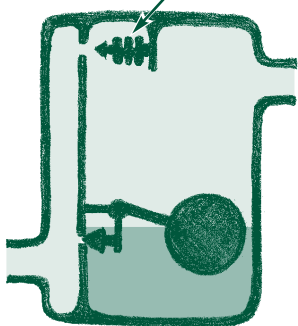

Fig. 7
-  **Fig. 7** The thermostatic element in the F+T trap is filled with a volatile mix that expands at steam temperature to drive pin into seat to close.